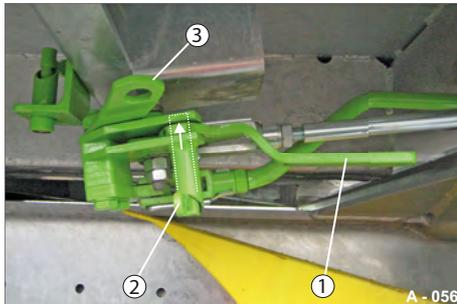

Fig. 58 Central locking system in drive position
The lever (Fig. 58/1) of the central locking system must be closed.
- Set the central locking system to the drive position (see Fig. 58).